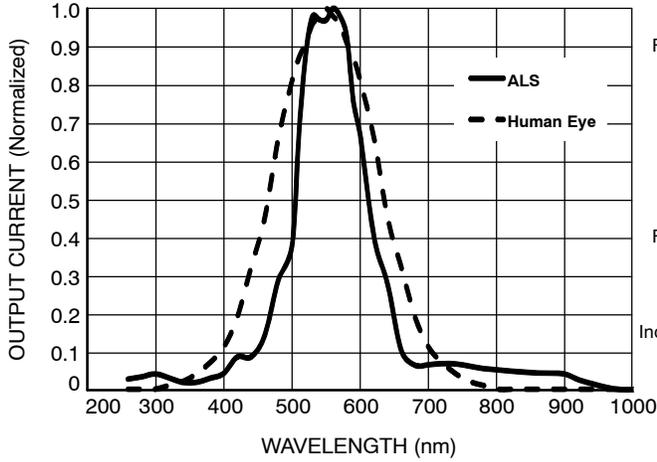

Figure 4. ALS Spectral Response (Normalized)
- Refer to Figure 4 for more information on spectral response.
The ambient light sensor contained in the NOA3301 employs a second photo diode with its own proprietary photopic filter limiting extraneous photons, and thus performing as a band pass filter on the incident wave front. The filter only transmits photons in the visible spectrum which are primarily detected by the human eye and exhibits excellent IR rejection. The photo response of this sensor is as shown in Figure 4.